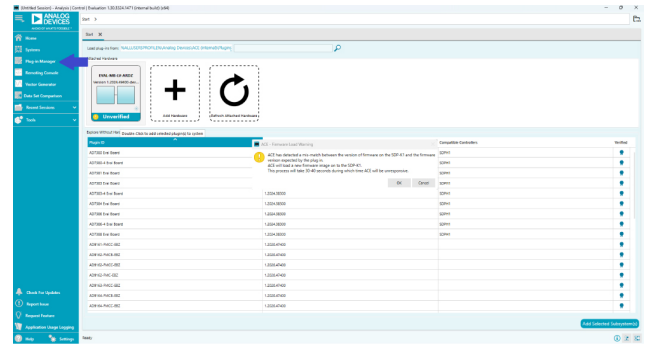

Figure 3. Opening Plug-in Manager
2. Open ACE, go to **Plug-in Manager**. A dialog box occasionally pops up asking to reprogram the SDP-K1 with a standard firmware, always select **No** or **Cancel** as shown in Figure 3.